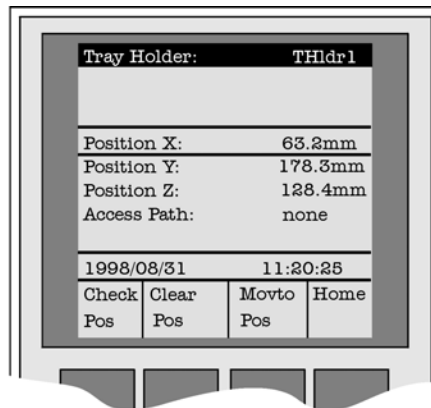

Figure 19. Menu Screen Object Trayholder
- 2 After selecting "Named Tray Holder" (e.g. THldr1 or Stack1), the **X Y Z** positions for the selected object will be displayed (see Figure 19).